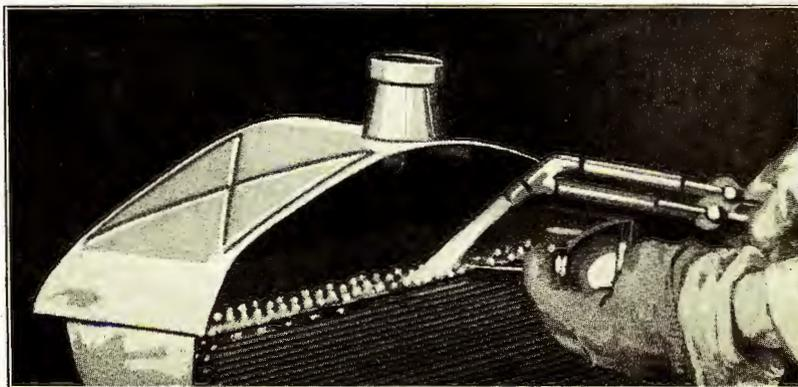

Fig. 416
- 830** Before replacing the front wall, it is usually necessary to reset the tubes. Clean the tubes in the header with acid and a brush; using an oil can to hold the acid, facilitates the operation (See Fig. 416). The radiator is then set on the bench hangers and solder is flowed on the tubes in the same manner as the bottom header is reset (See Pars. 815 and 816).